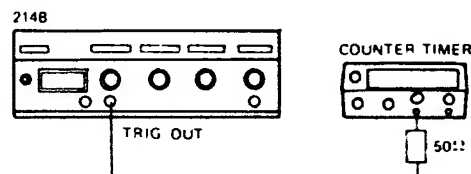

Figure 5-1
1. Connect equipment as shown in Figure 5-1 and set 214B controls as follows: